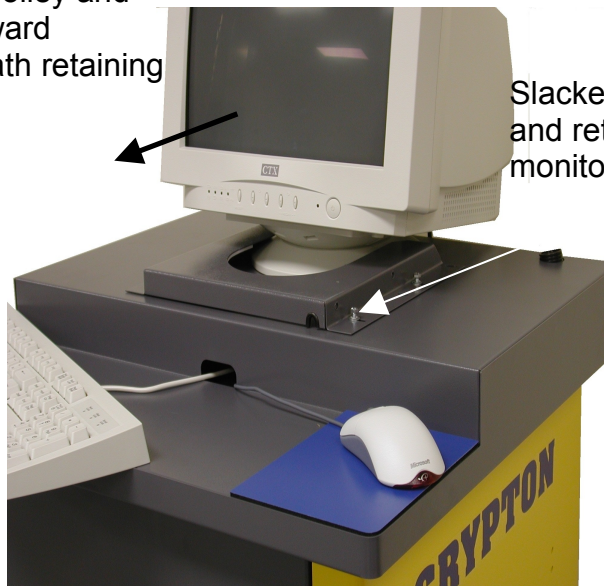

Fig. 4a
3. Slacken the four screws (do not remove) securing the Monitor clamp to the top of the trolley. Fit the Monitor base to the Monitor and place on top of the trolley at the back with the screen facing the front. Slide into position underneath the clamp and retighten the four screws as shown in Fig. 4a.